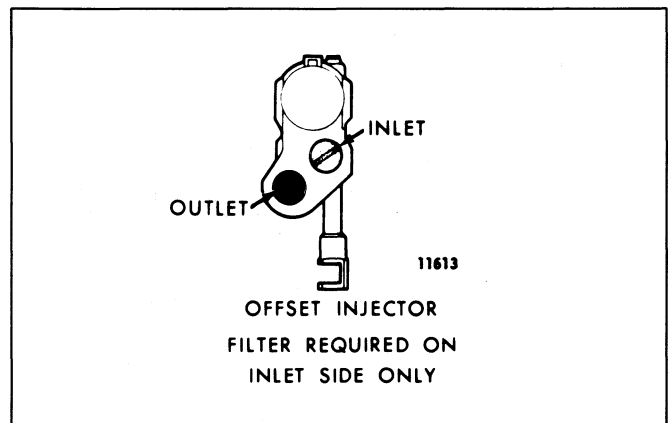

Fig. 10 - Location of Filter in Injector Body
2. Whenever a fuel injector is disassembled, discard the filter and gaskets and replace with a new filter and new gaskets. In the offset injector, a filter is used in the inlet side only. No filter is required in the outlet side (Fig. 10).